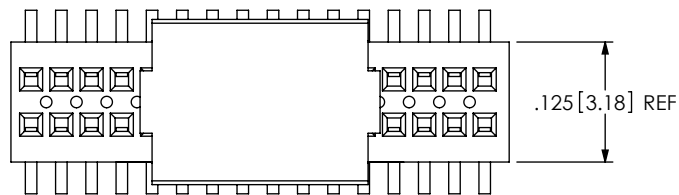

FIG 2
-P: PICK & PLACE PAD (SEE FIG 2, SHT 2)